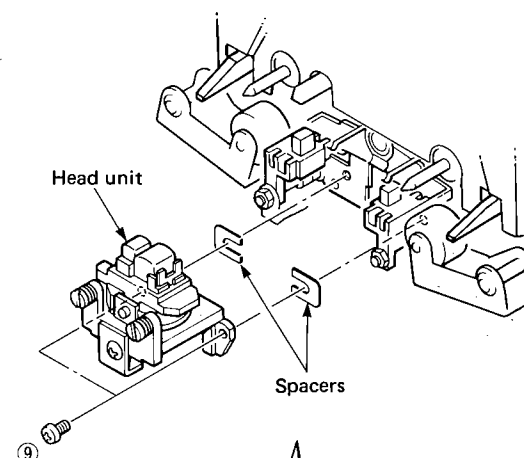

Fig. 6
c. Remove 2 screws (⑨) in Fig. 6 and then remove the head unit.